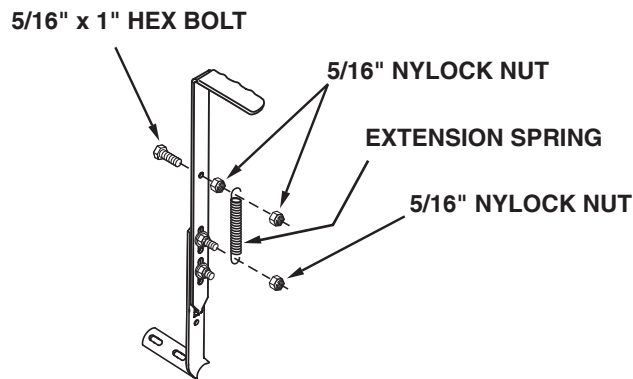

FIGURE 8
- Assemble a 5/16" x 1" hex bolt and a 5/16" nylock nut into the top hole in the height adjustment handles. See figure 8.
- Assemble the extension spring onto the end of the upper bolt and the middle bolt in the height adjust handles. Assemble a 5/16" nylock nut onto each bolt so that one thread of the bolt extends through the nut. See figure 8.